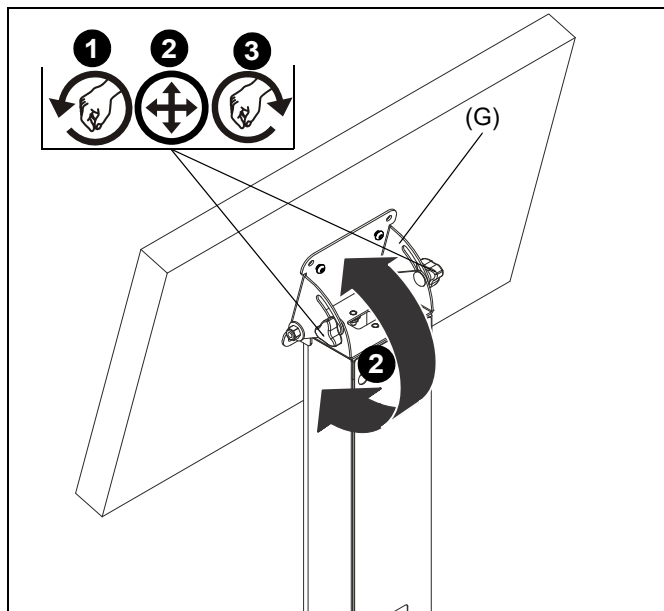

Figure 9
1. Loosen tilt adjustment knobs on VESA adapter (G) by turning them counter-clockwise. (See Figure 9)
2. Tilt to desired position. (See Figure 9)
3. Tighten tilt adjustment knobs on VESA adapter (G) by turning them clockwise. (See Figure 9)